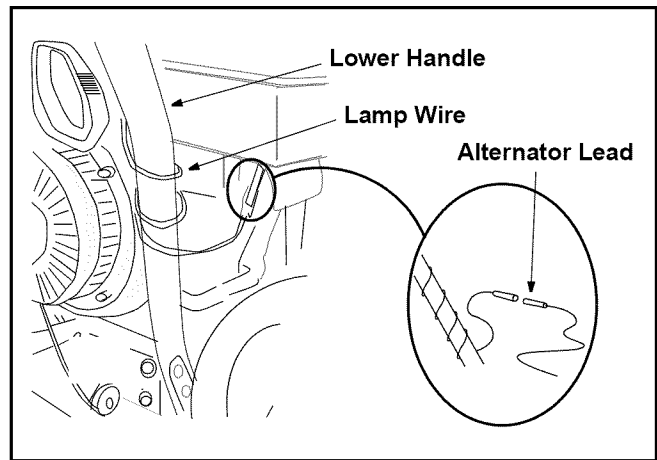

Figure 13
- If so equipped, wrap the wire from the lamp down the right handle until the wire can be plugged into the alternator lead wire located under the fuel tank. See Figure 13. Lamp wire must not interfere with any controls or cables.